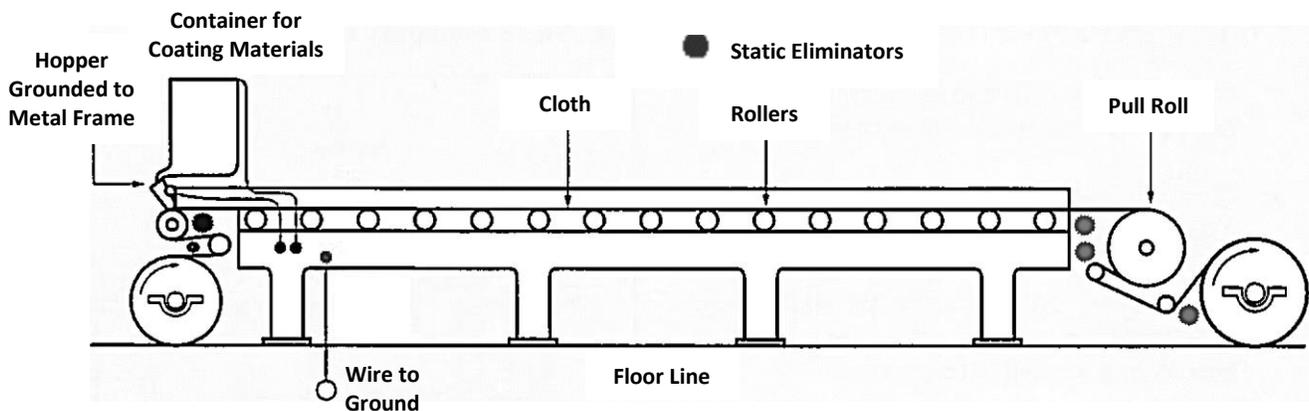

Figure 2.7: Static Controls on a Coating Machine
- 2-59 When flammable liquids are used in a process, you must take special precautions against ignition of the liquid or its vapors. Static eliminators can be installed where the roll of material is unwound and where it passes over rollers or under spreading knives. The frame of the machine should be grounded by a conductor that cannot easily be removed or broken. Figure 2.7 shows the installation of static eliminators and grounding wires on a typical process machine.